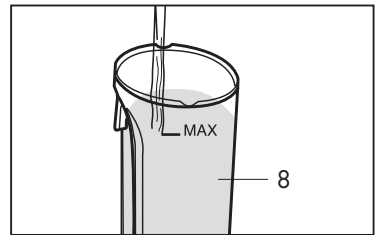

Fig. 2
- Fill the tank until the indicated maximum level is reached (MAX). (**Fig.2**)